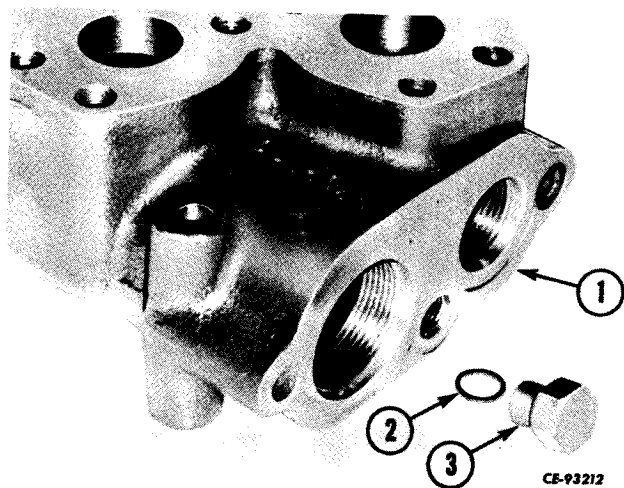

Figure 11-64
Remove the plug (3, Fig. 11-64) from the valve (1). Remove the seal ring (2) from the plug.